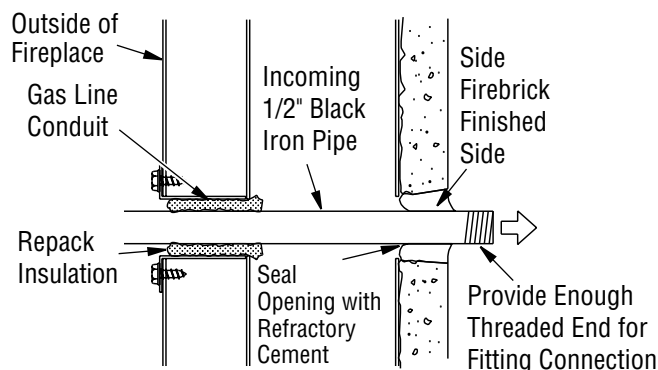

Figure 22 - Gas Line Installation
3. Run a 1/2" black iron gas line into fireplace through rear at gas line conduit sleeve (if using a raised platform, add height). Provide sufficient gas line into fireplace chamber for fitting connection (see **Figure 22**).